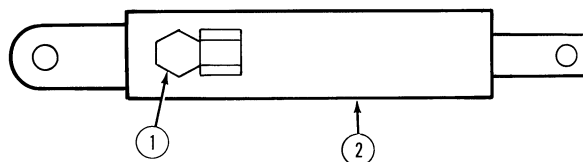

Figure 25
1. Insert a 1/4" x 90° adapter union, (1), Figure 25 into the ports of both angling cylinders, (2). Use pipe compound or teflon tape on the threads. Position the fittings as shown in Figure 25.